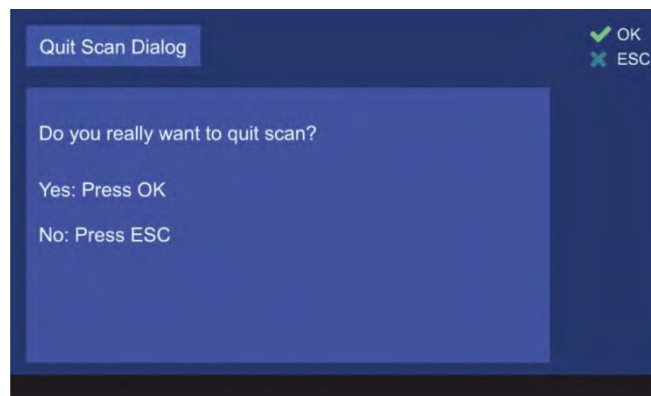

Figure 49. Confirming of leaving the scan mode
- You can stop the scan mode by pressing the “HOME” while on the “Bearing” page with activated scan. After you confirm the dialog (s. Figure 49), this mode will be terminated.